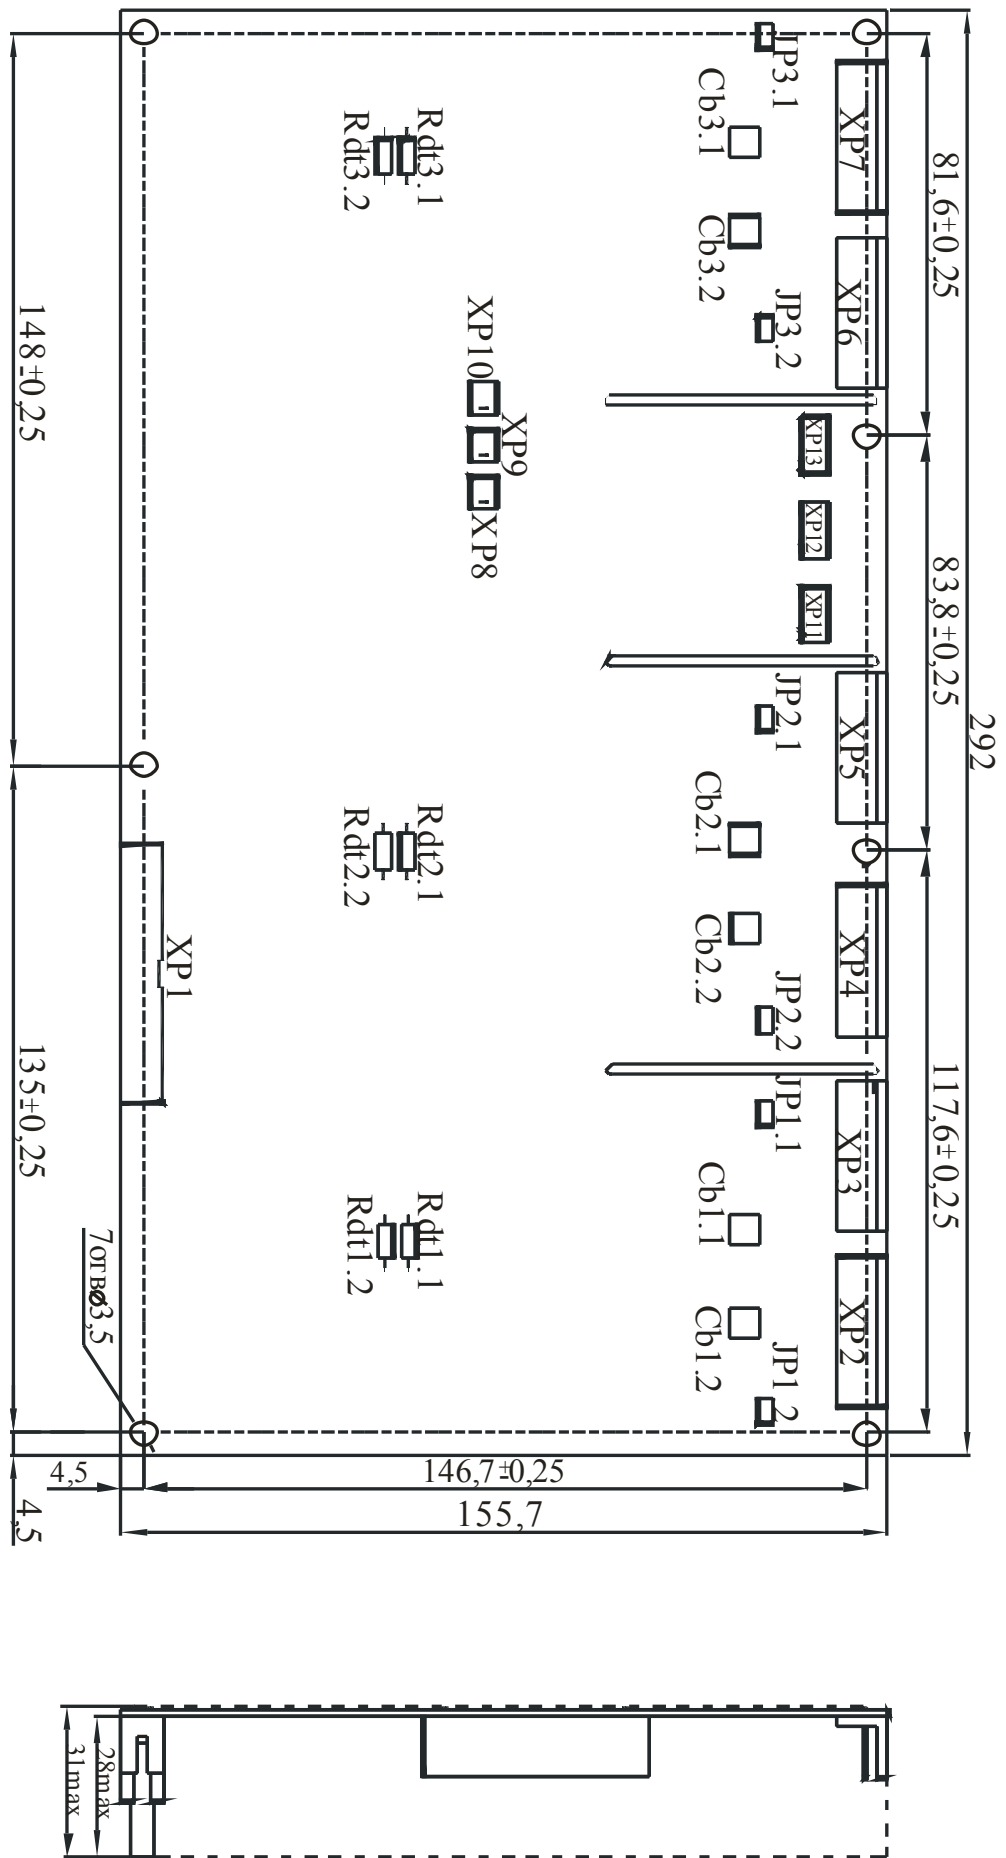
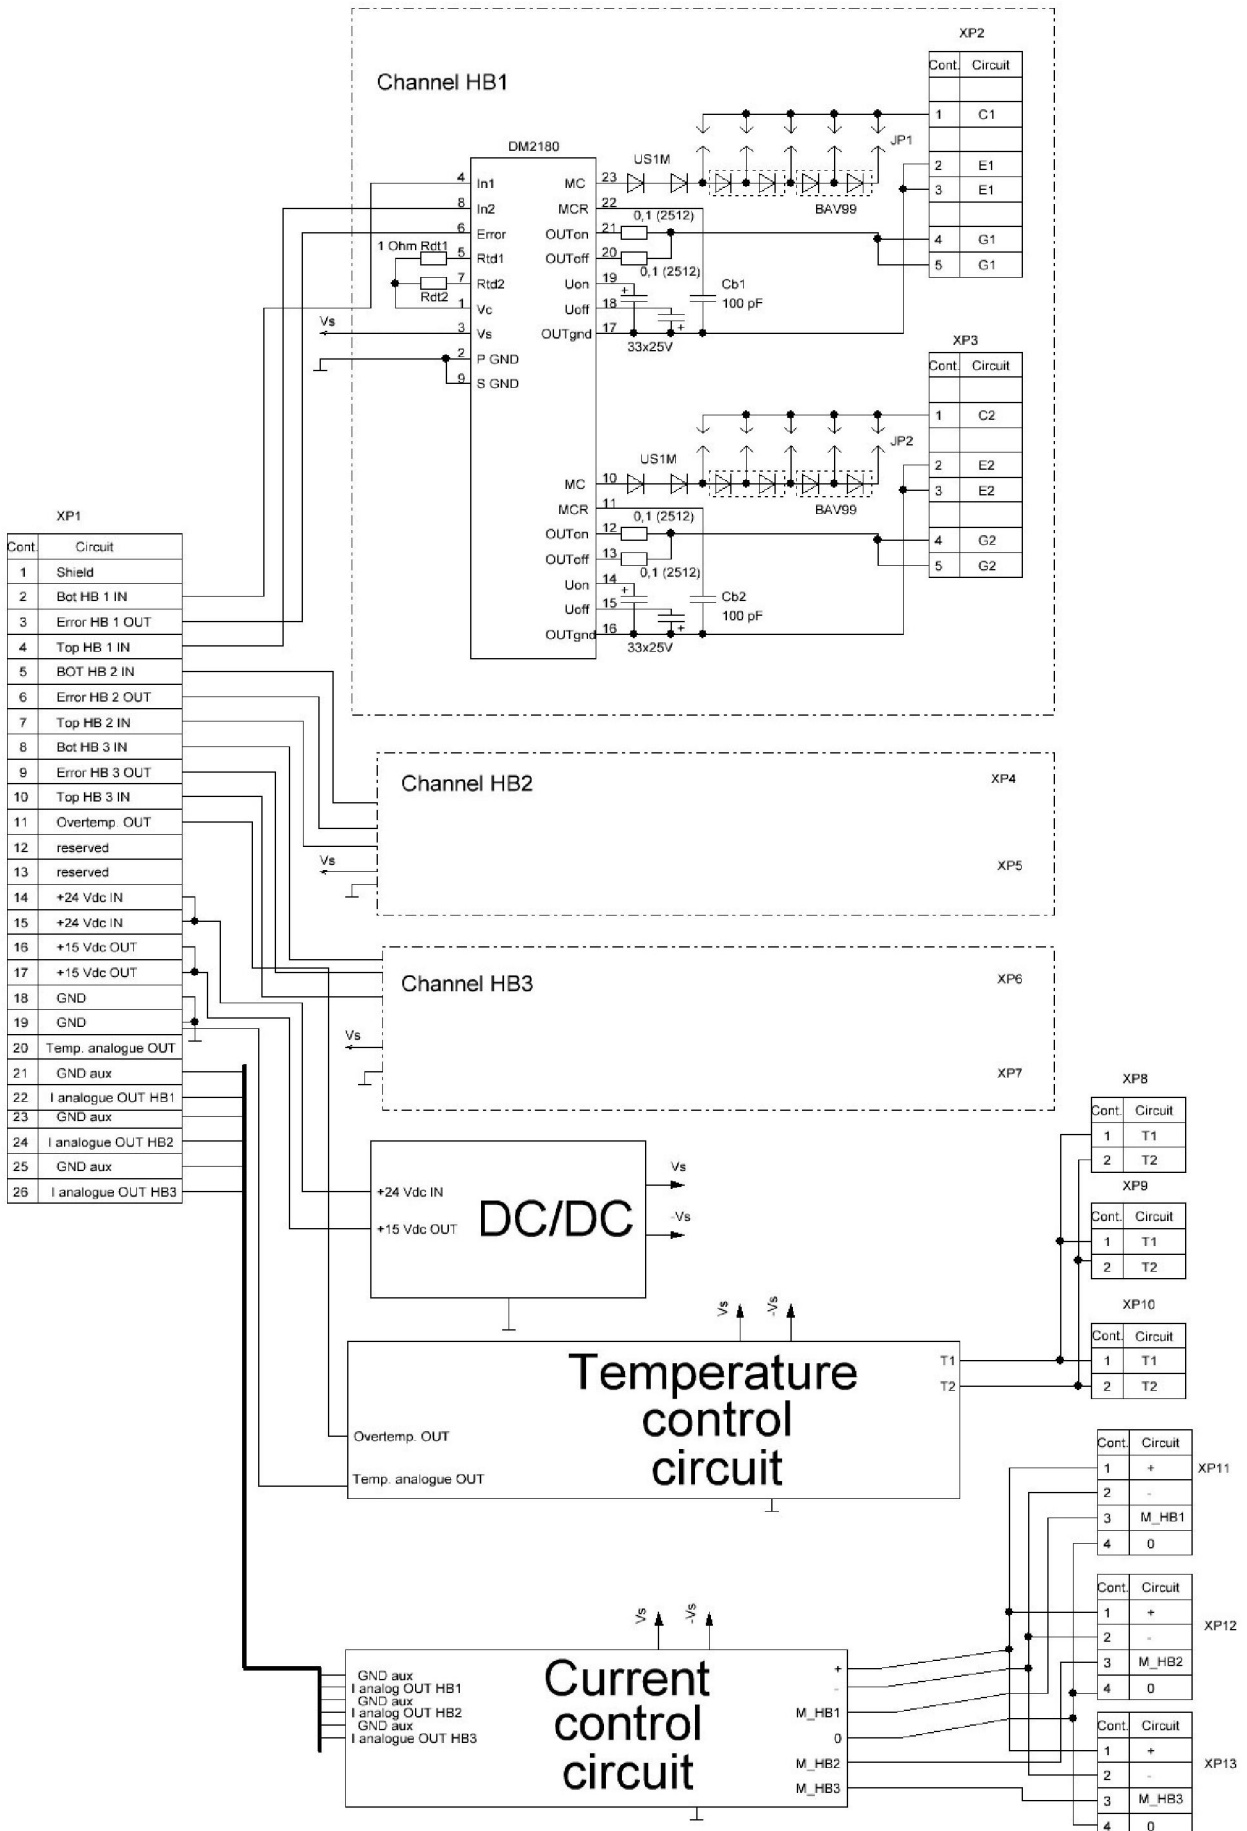

Figure 1 – Driver overall dimensions
Figure 2– Driver functional circuit
3.2 Overall drawing is shown on Figure 1; functional driver circuit is shown on Figure 2.